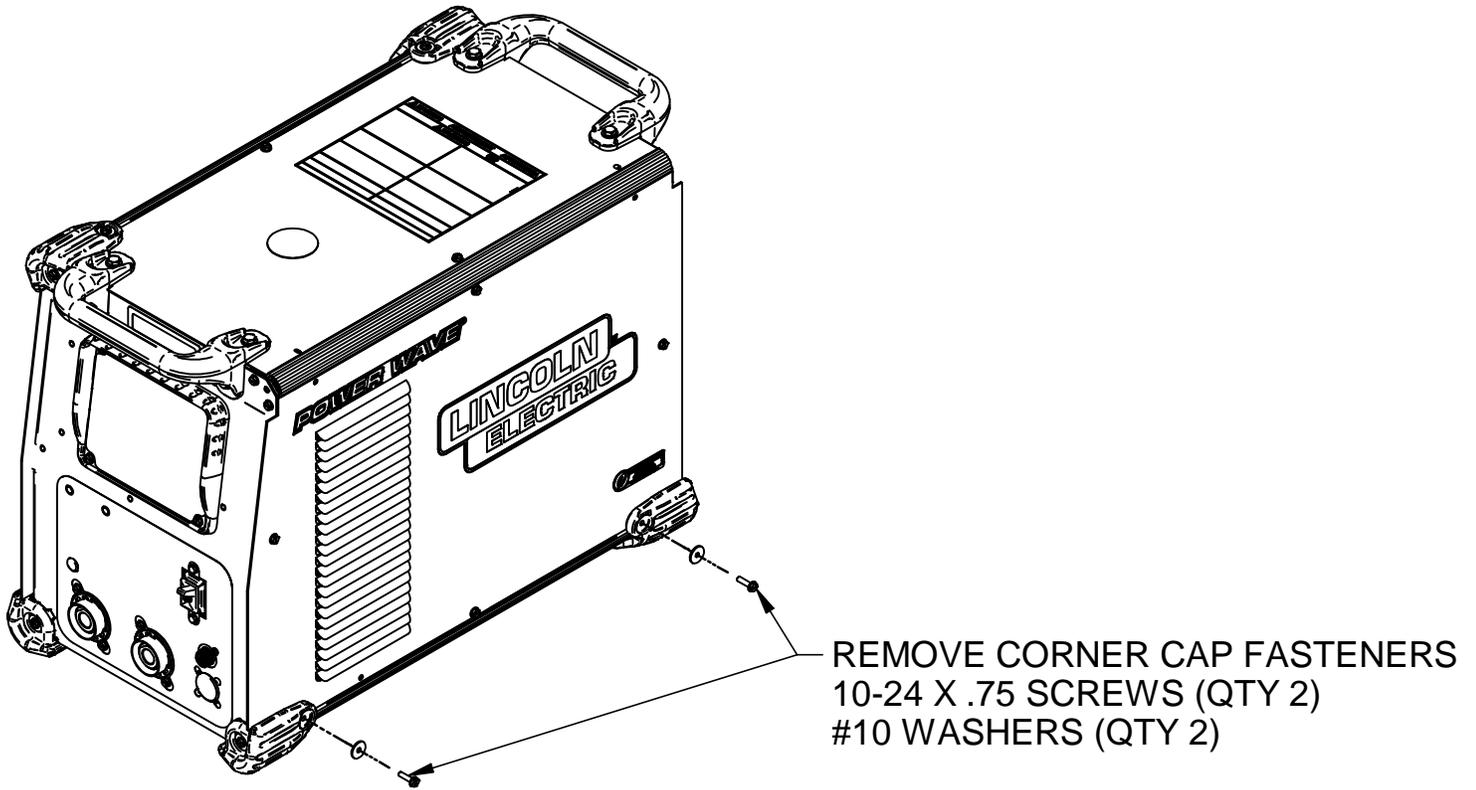

FIGURE 3
5. Remove the bottom right Corner Cap fasteners, two places, using a 5/16" nut driver or other suitable tool (**Figure 3**). Retain all mounting hardware for reinstalling the Corner Caps.